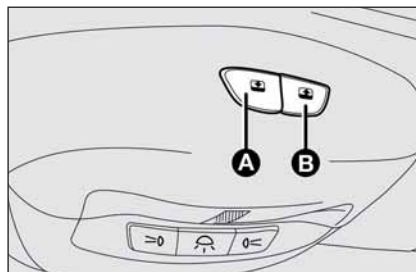

fig. 66
The “skydome” type sunroof consists of two glass panels (a fixed one and a sliding one) fitted with sun curtains with two manual control positions (open/closed). Sunroof operation is possible only with the ignition key at **MAR**. Buttons **A** and **B**-fig. 66, located on the central ceiling light, control sunroof opening and closing.
- ☐ press button **B**-fig. 66 at close position;